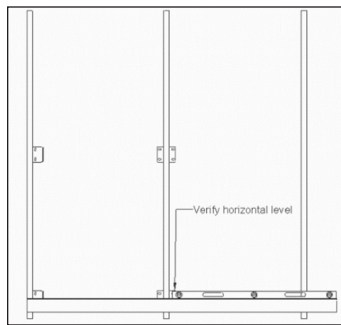
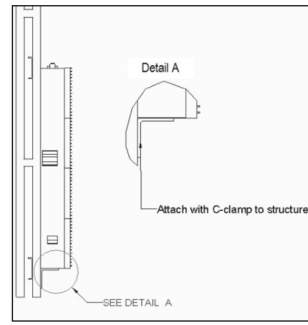

Figure 1: Angle Installed for First Row Alignment
Figure 2: Angle Attachment to Structure
2. Attach an angled metal section with two sections or more to the bottom of the metal structure using a C-clamp as a support for the first row. Ensure that the metal support piece is horizontally level and plumb. Refer to **Figure 1** and **Figure 2**.